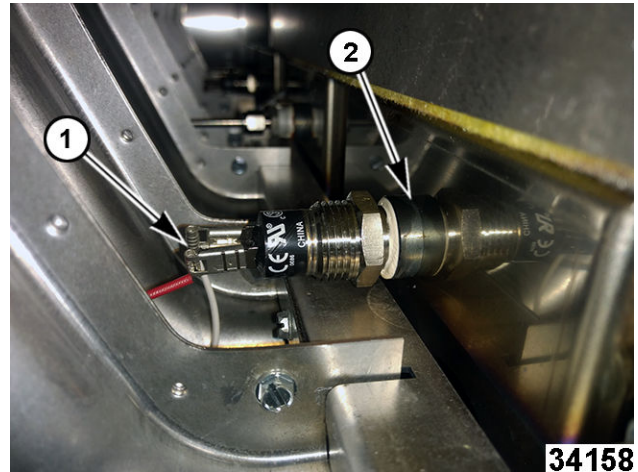

Fig. 65
3. Note and disconnect high limit terminal wires (1, Fig. 65).
4. Remove/unthread high limit (2, Fig. 65) from fry tank.